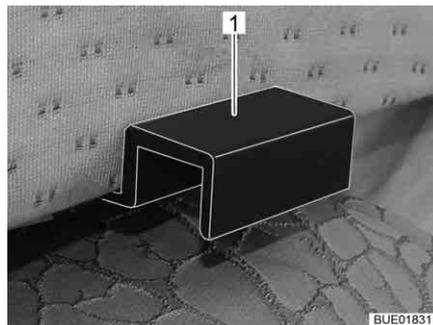

Fig. 144 Additional cushion holders
- Hook the additional cushion with the holders (Fig. 144,1) into the panels of the single beds so that a closed lying surface is created.